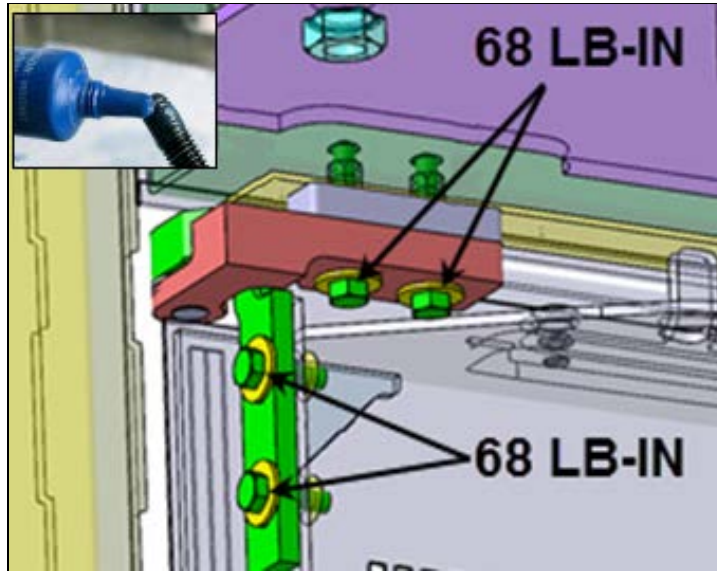

FIG.8 TIGHTENING TORQUE- UPPER HINGE
- The four M6 bolts are torqued to **68 lb-in** (apply blue Loctite 242 or equivalent medium strength thread locker on all fastener threads (Fig.8)).